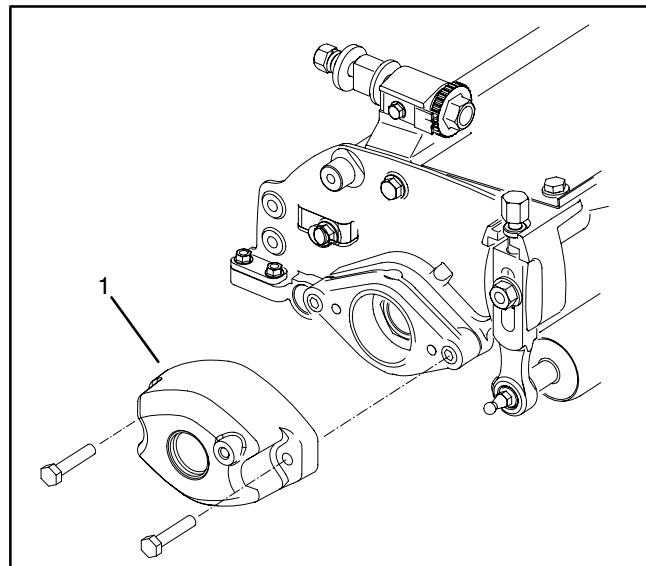
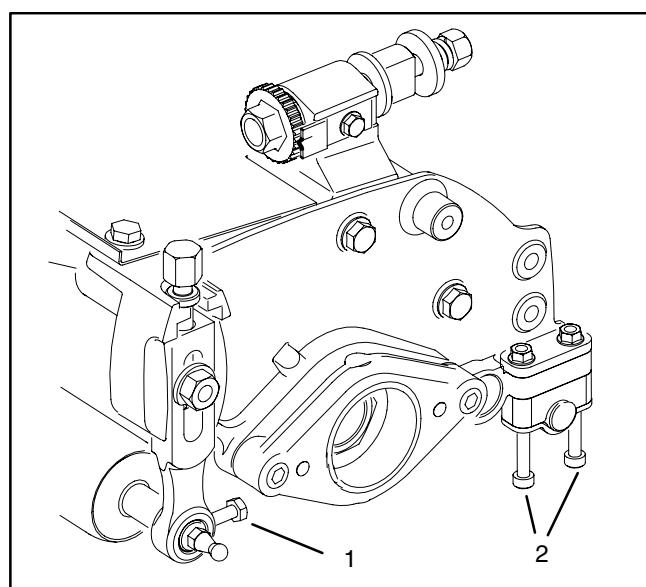

Figure 17
Figure 18
2. Remove the 2 capscrews securing the counter weight to the side plate (Fig. 17). Remove the counter weight.
4. Remove the reel bearing lock (8) nut from each end of the reel shaft.
5. Loosen the setscrews securing the front roller to the height of cut arms (Fig. 18). Do not remove the set screws.
6. Loosen the saddle strap screws and flange nuts securing the rear roller to the the side plates (Fig. 18). Do not remove the screws and nuts.
7. Remove the capscrew (24), washer (23) and lock nut (25) securing each end of the grass shield to the side plates. These are the only capscrews that must to be removed. The grass shield and the lift hook do not need to be removed.
8. Remove the 2 shoulder bolts (7) securing the right hand side plate to the cutting unit frame. Remove the side plate from the reel shaft and roller shafts.
9. Remove the 2 shoulder bolts (7) securing the left hand side plate to the cutting unit frame. Remove the side plate from the reel shaft and the roller shafts.